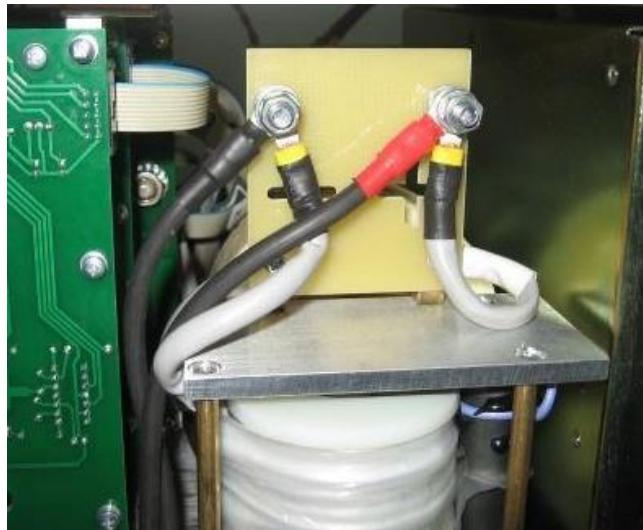

Figure 43 High voltage cables
11. Connect High Voltage cables and tighten the nuts (Figure 43). The red cable represents positive '+' terminal, and the black cable – negative '-'.